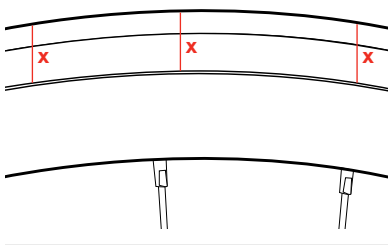

Figure 27. Correct. Make sure the mold line of the tire is equal (X distance) with the rim all the way around.
- Check for correct tire bead engagement in the rim (Figures 27 and 28). Most tires have a mold line near the bead of the tire where it engages the rim. All the way around the rim, the distance between the mold line and the top edge of the rim must be even and equal. If the distance is not equal, deflate the tire and repeat steps 7 and 8.
- Re-check for correct tire bead engagement (Figure 27 and 28).